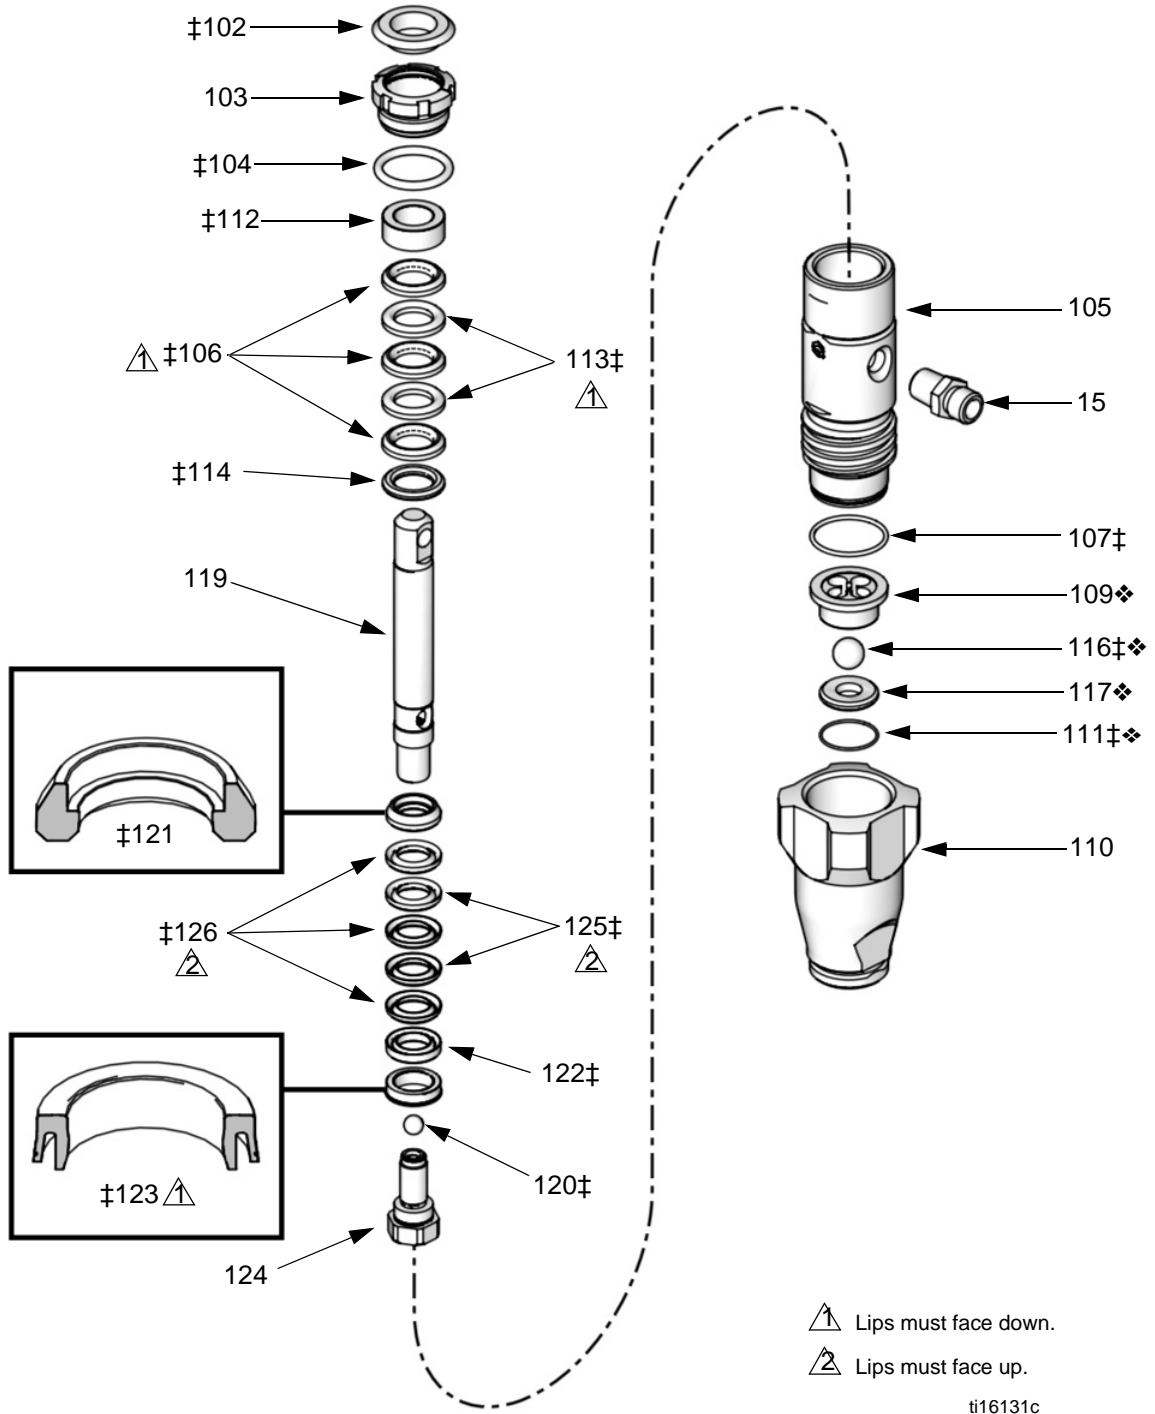

FIG. 7. Displacement Pump
4. Remove the intake housing (110). See FIG. 7.
5. Clean or replace the ball guide (109), ball (116), seat (117), and o-ring (111).
6. Install the o-ring (111‡), seat (117), intake ball (116‡), and ball guide (109) in the intake housing (110).
7. Screw the intake housing (110) onto the cylinder (105). Torque to 70-80 ft-lb (95-108 N•m).
1. See FIG. 7. Loosen the packing nut (103), using a screwdriver and hammer. Remove the o-ring (104).
2. Unscrew the cylinder (105) from the intake housing (110). The rod and piston assembly will come with the cylinder.
3. Remove the ball guide (109), intake ball (116), seat (117), and o-ring (111) from the intake housing (110).
4. Drive the rod and piston assembly out the bottom of the cylinder. Remove the o-ring (107) from the cylinder.
6. Put the rod (119) in a vise and unscrew the piston (124). Be careful not to drop the piston ball (120). Disassemble the piston packings from the piston.